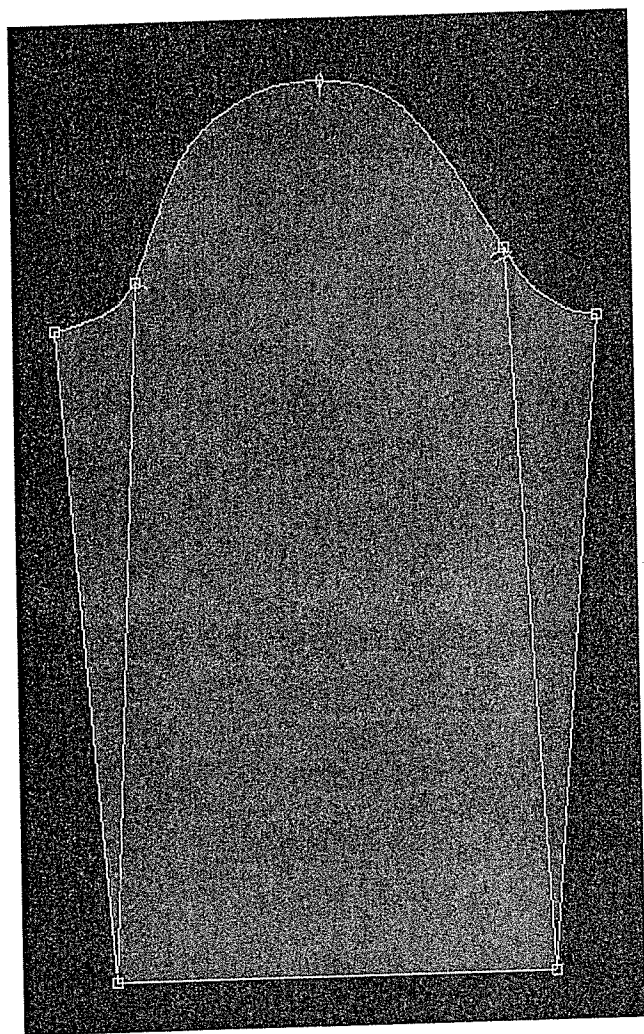

Figure 4.33 Long sleeve with split lines.
2. Select *F1>Lines>Straight* and draw two straight lines from the front and back notches to the wrist/underarm seam intersection point (Figure 4.33).